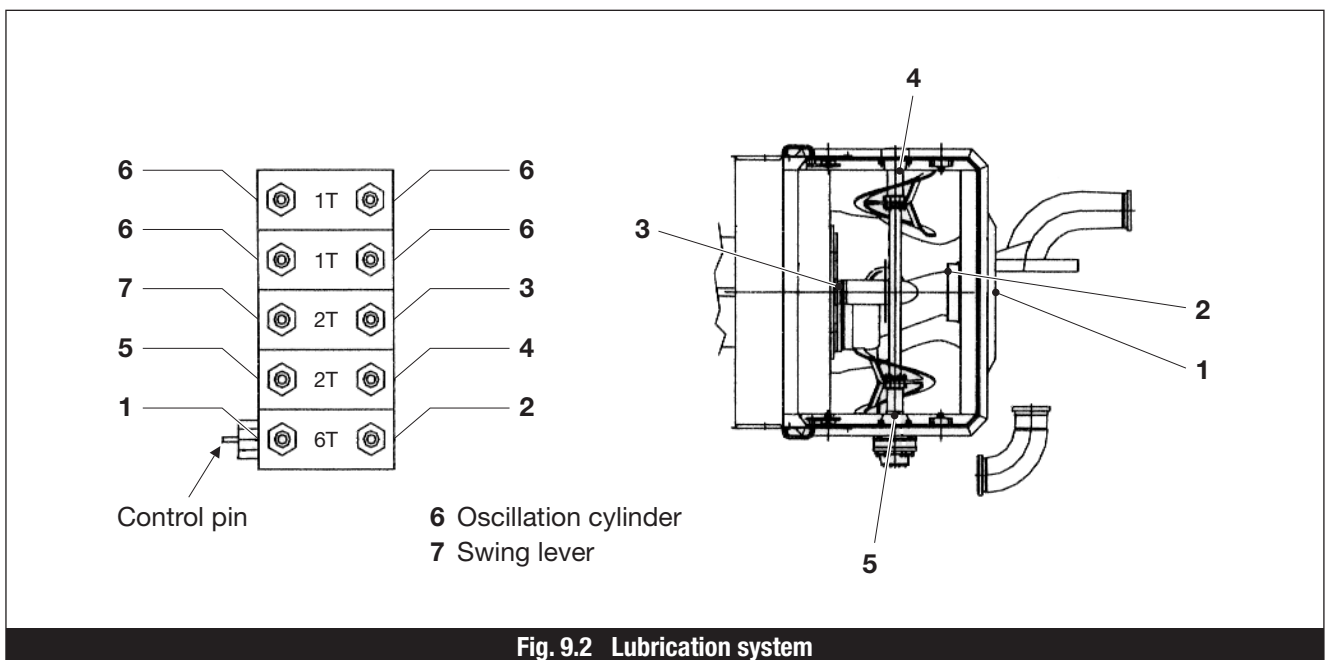

Fig. 9.2 Lubrication system
2. Checking the grease points on the hopper (Fig. 9.2)